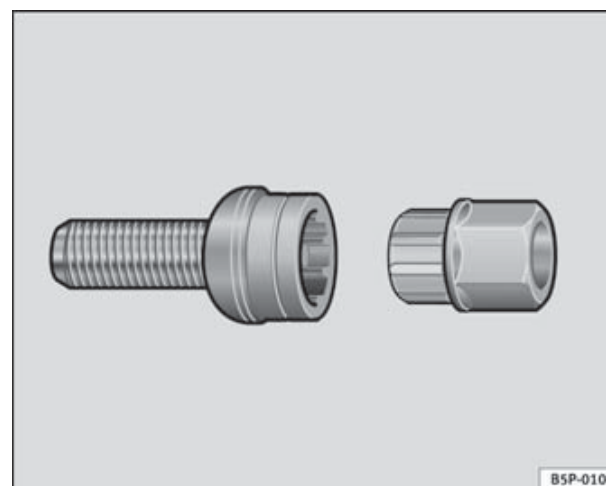

Fig. 159 Anti-theft wheel bolt ▶
- Insert the adapter onto the wheel bolt and push it on as far as it will go ⇒ page 229, fig. 159.